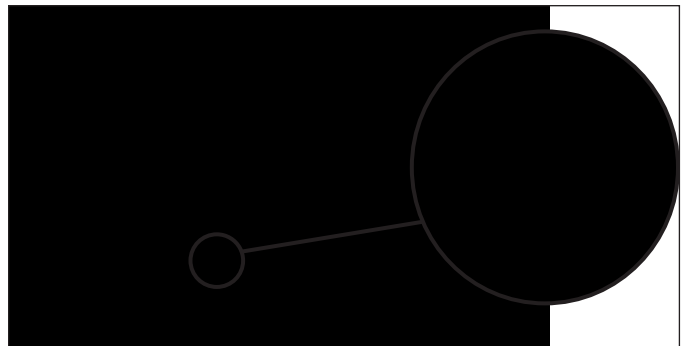

FIG. 7. Installed pressure regulator and air hoses. Be sure the hose clamps are tightened to prevent leaks.
- Attach the pressure regulator to the CO2 cylinder. See fig. 7.
- With the hose clamp(s) the provided clear vinyl hose (s) onto the pressure regulator. See fig. 7.